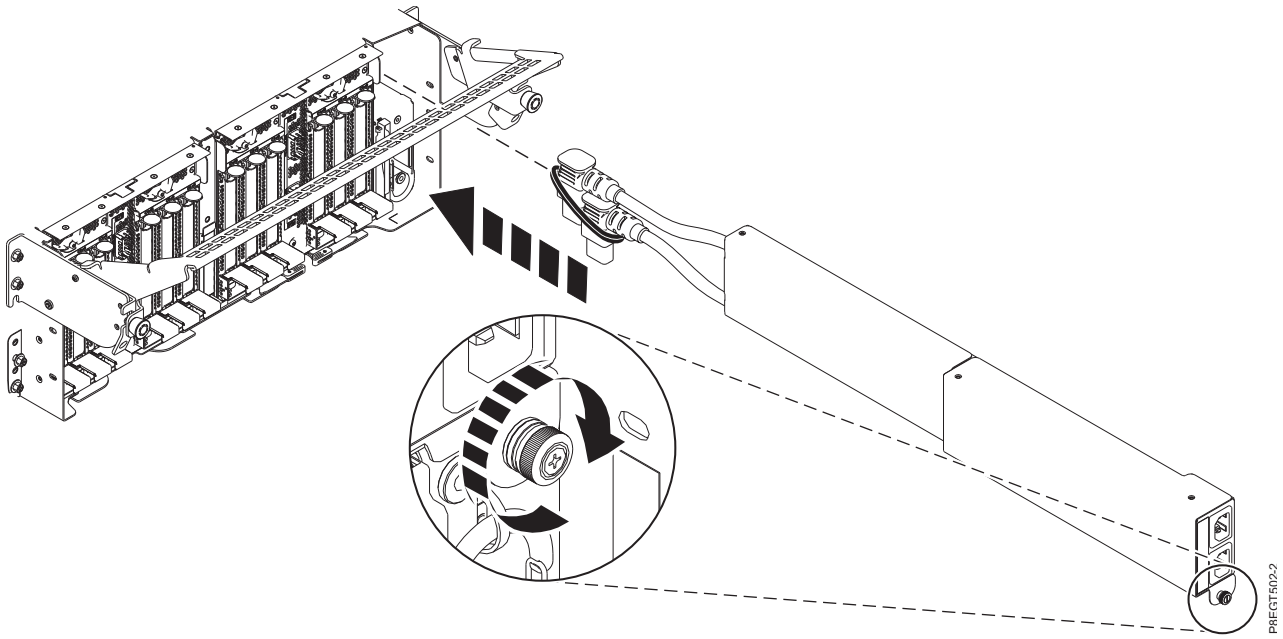

Figure 10. Replacing the power supply conduit
- b. Leave the rubber band on the new power supply conduit cables during installation until directed to remove them. The power supply conduit is installed with the power cables positioned facing down as shown in Figure 10 on page 8.
- c. Slide the power supply conduit into the rear of the EMX0 PCIe3 expansion drawer and tighten the retaining screw as show in Figure 10 on page 8. Apply slight force with your hand to the cable management bracket to allow the power supply conduit to slide past the bracket during replacement.